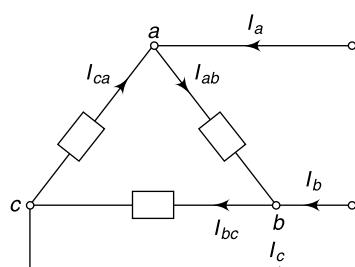

Fig. 4.20 Circuit of Ex. 4.30
4.30 A three-phase 440 V supply feeds a balanced delta connected load. Given: $I_{ab} = 30\angle -30^\circ$ w.r.t. V_{ab} . Find (i) the line current I_a and its phase angle w.r.t. V_{ab} , (ii) total power received by the load and (iii) the resistance per phase. The corresponding figure is given in Fig. 4.20.